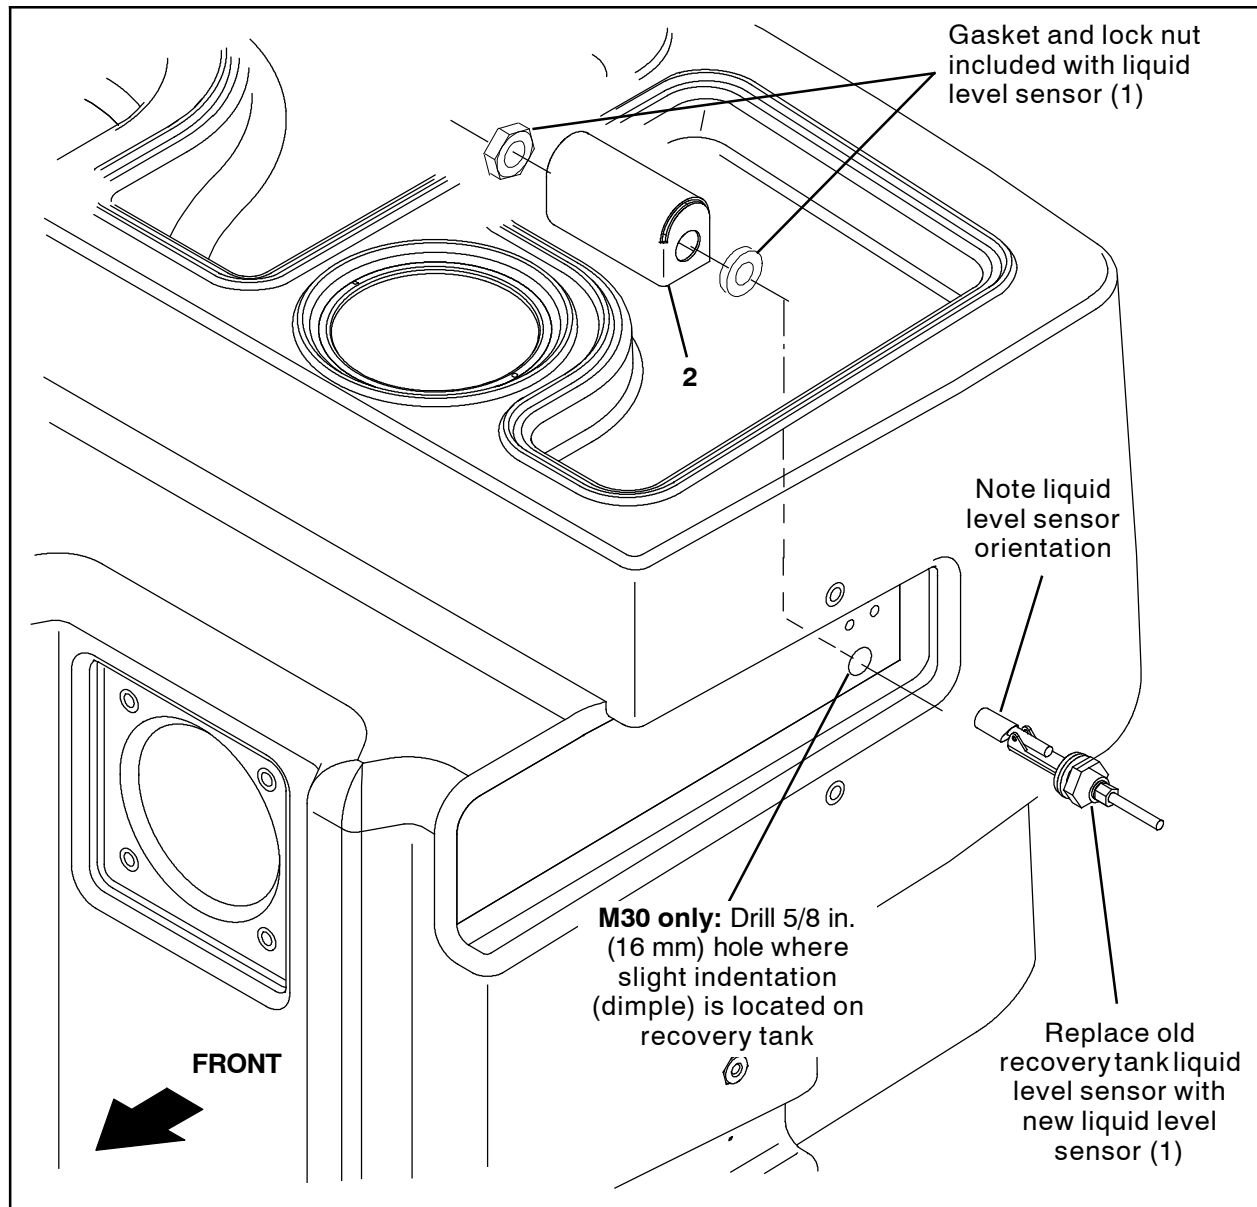

FIG. 5
3. **M30 Machines only:** Drill a 5/8 in. (16 mm) hole into the side of the recovery tank where the slight indentation (dimple) is located. (Fig. 5)
4. **M30 machines only:** Route the main wire harness liquid level sensor to where new liquid sensor (1) will be installed and connect the main harness to the new liquid level sensor.
5. Remove the lock nut and gasket from one of the new liquid level sensors (1).
6. Use the lock nut and gasket to install the liquid level sensor (1) and float switch protector bracket (2) into the recovery tank. (Fig. 5)
NOTE: Position the liquid level sensor so the narrow end of the float mechanism is oriented as shown in Fig. 5.